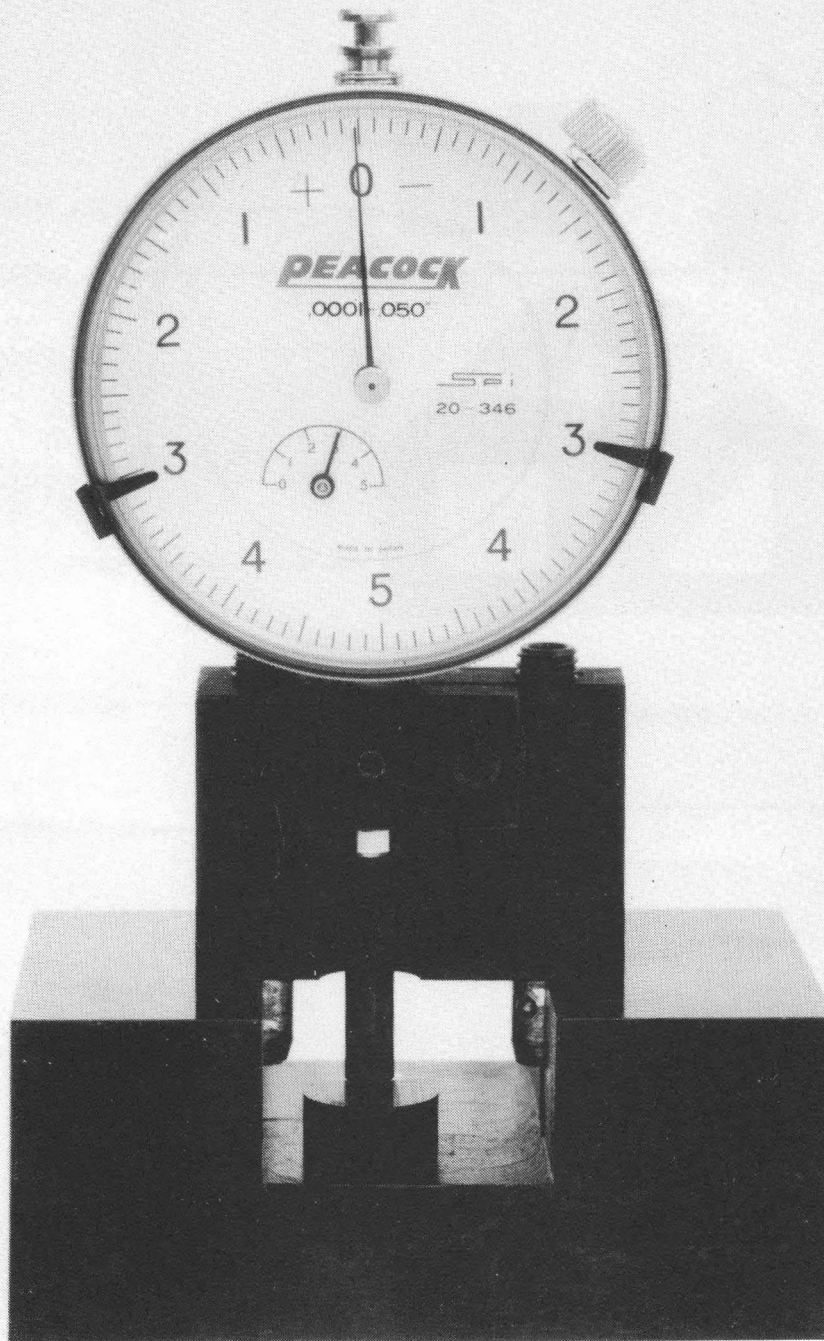

FIGURE 39.DIAL INDICATOR
- b. Set up the penetration dial indicator on the penetration tool master. Check penetration tool to make sure its indicating surfaces are clean and properly set; (long hand on zero and small hand on three) while it's resting on the penetration tool master. See Figure 39.